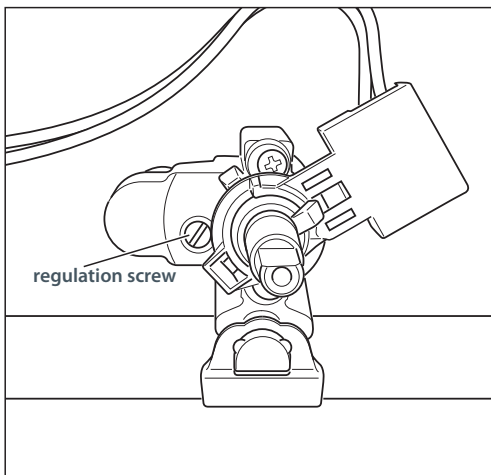

Fig. 18 Adjusting the minimum burner setting: semi-rapid and triple-ring wok burner
- 4 Using a small flat screwdriver, turn the screw (see Fig. 18) to the correct regulation.